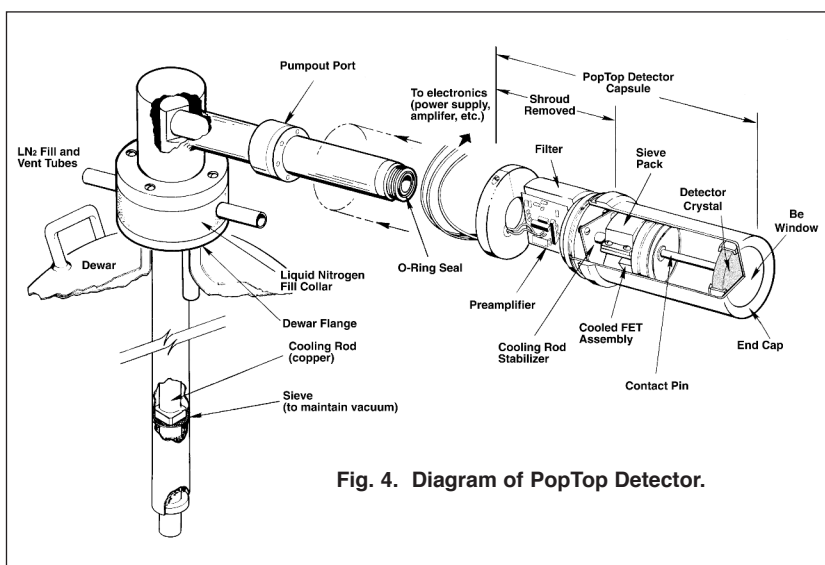

Fig. 4. Diagram of PopTop Detector.
- A Si(Li) detector element (Fig. 4) mounted, in most systems, inside the vacuum enclosure of its PopTop capsule.
The essence of a PopTop detector system is that the detector element, preamplifier, and high voltage filter are housed in a detector “capsule” which is then attached to an appropriate cryostat (Figure 4.)